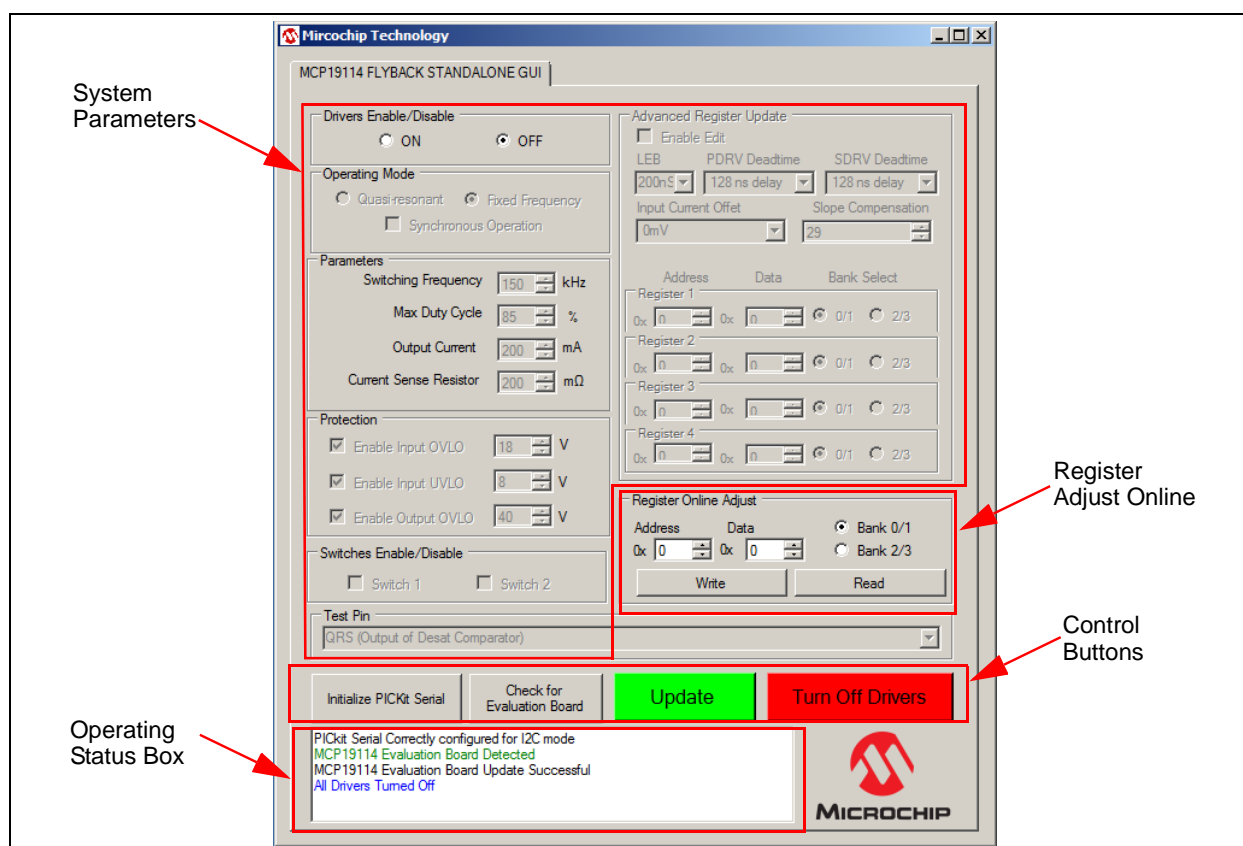

FIGURE 3-2: MCP19114 - Flyback Stand-Alone GUI - Initial Screen.
3. To start the GUI, select Start > All Programs > Microchip Technology Inc. > MCP19114 Flyback Standalone GUI. The interface detects the MCP19114 device automatically and is ready for use (see Figure 3-2).
As depicted in Figure 3-2, the MCP19114 - Flyback Stand-Alone GUI is divided into four parts: